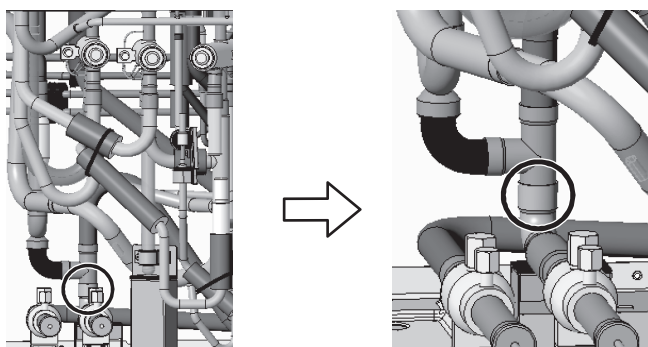

Figure 5
- (4) Remove the braze from the pipe where circled in the figure. (See Figure 5.)